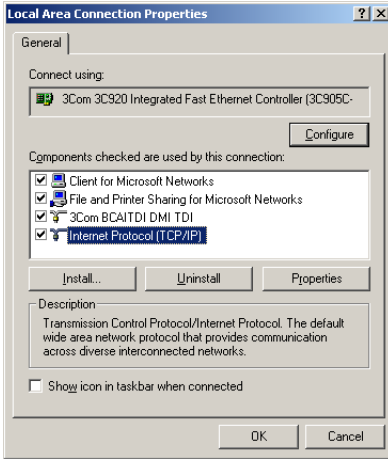

Figure 6-1 Local Area Connection Properties Window
3. Highlight the “Local Area Connection” icon. View the properties by right-clicking and selecting “Properties.” The Local Area Connection Properties Window will open (Figure 6-1).